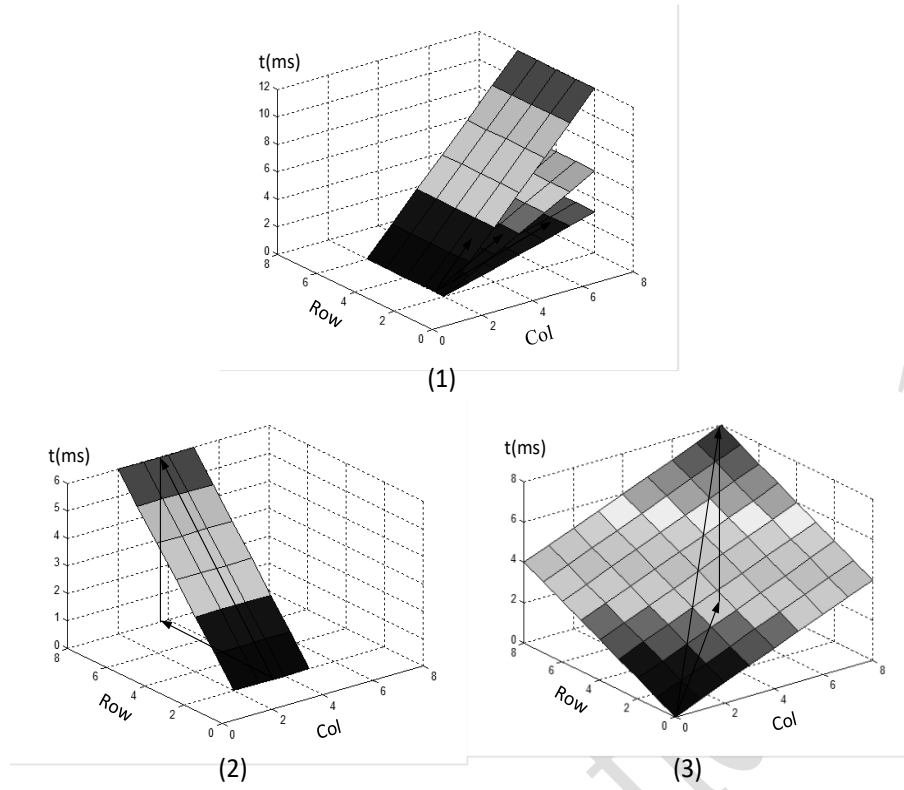

Fig. 1-10 The slope and aspect of Optical-Flow
- 5) Optical-Flow is identified in the space as shown in Figure 1-10 below. With the trajectory of the object, a slope is formed whose direction is the same as the direction of movement of the object. The slope is also related to the speed of movement. The faster the object moves, the smaller the slope. Two built-in algorithms for extracting the slope and its aspect are provided, namely getOpticalFlowDirectionPicBuffer and getOpticalFlowSpeedPicBuffer. Users can also develop their own algorithms to obtain speed and direction information.